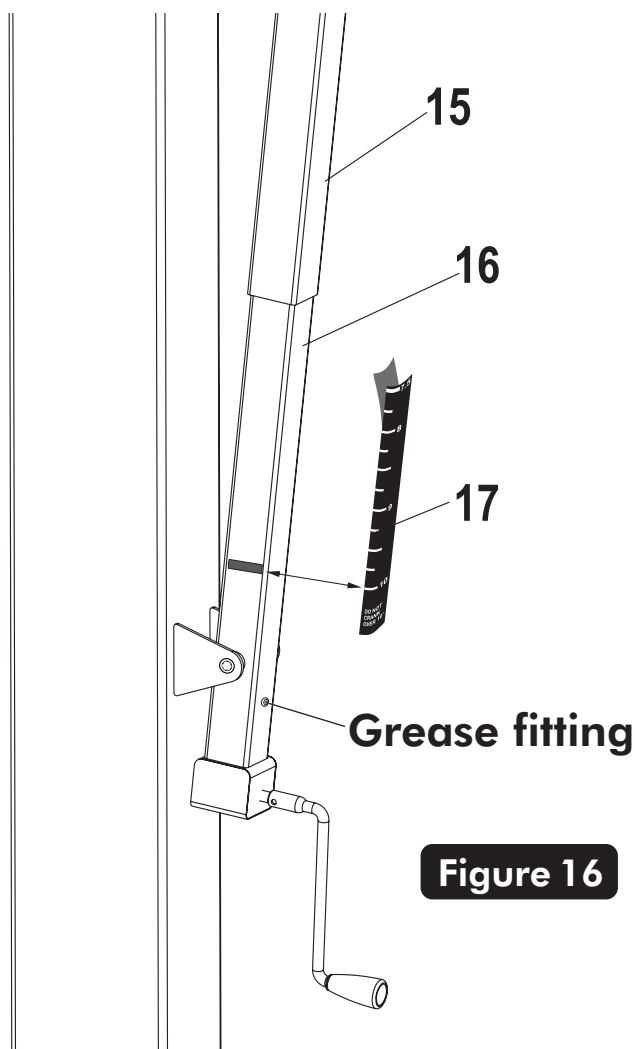

Figure 16
32. Remove the adhesive backing from the Height Decal (#17). Next, carefully align and stick decal to backside of steel actuator (#16) starting at the **10 ft mark first**. Be sure to keep the height decal straight and rub out all air bubbles. See **Figure 16**.